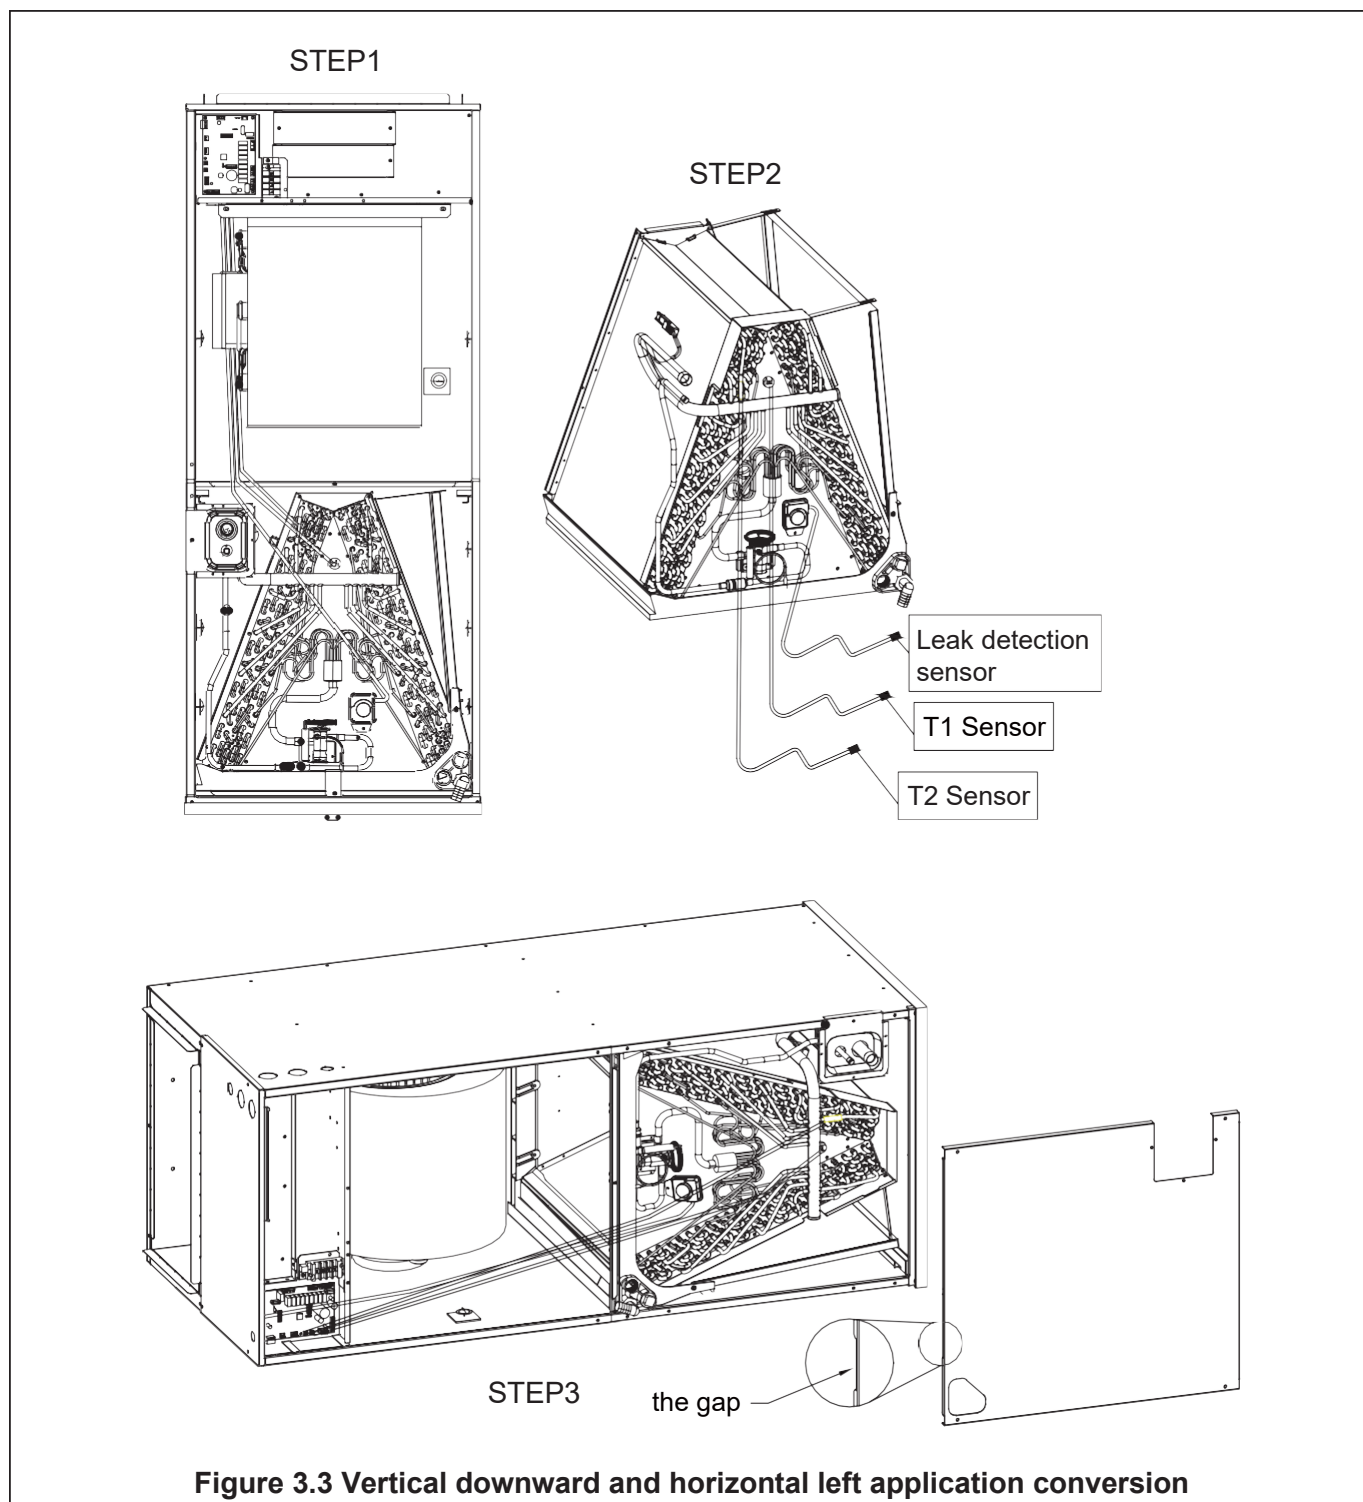

Figure 3.3 Vertical downward and horizontal left application conversion
- By removing the indoor coil assembly and reinstalling the coil, the vertical up flow position can be converted into a horizontal left position, See Figure 3.3 and 3.4.
1. Remove the screws and the front panel, and disconnect the plug of T1 sensor , T2 sensor and leak detection sensor wire from the circuit board (Figure 3.3, Step 1).
2. Pull out the coil with sensor wire (do not disconnect T1 sensor , T2 sensor and leak detection sensor from the coil). (Figure 3.3, Step 2)
3. Install the coil in the correct direction and fix it in place. Reinsert those sensor wires in PCBA through the gap on the cabinet cover (Figure 3.3, Step 3).